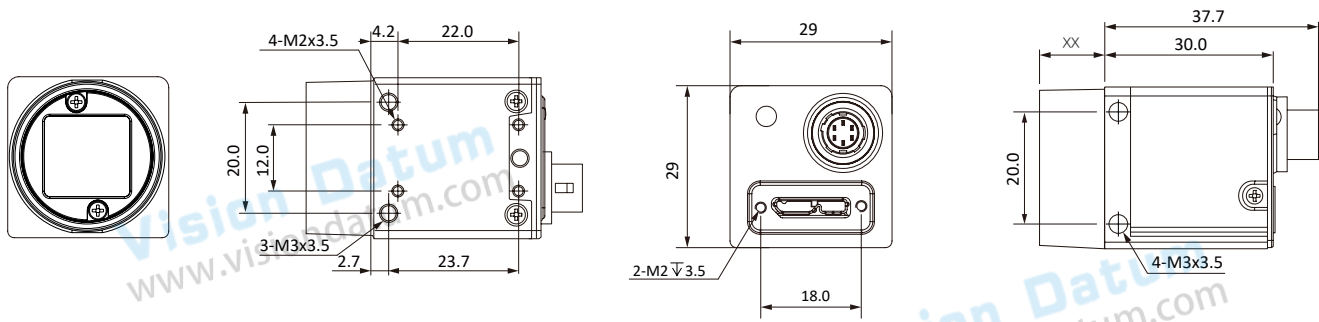

Fig. 1-3: Mechanical Dimensions (in mm) for USB3.0 Cameras with four-sided mounting 29 \* 29 \* 30mm housing.
- USB3.0 Cameras with four-sided mounting 29 \* 29 \* 30mm housing are as shown in Figure 1-3.